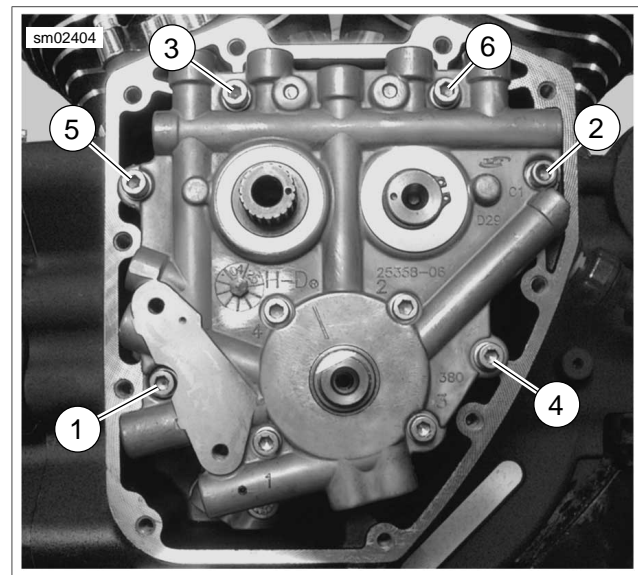

Figure 3-66. Cam Support Plate Torque Sequence
5. See Figure 3-66. Install cam support plate screws.